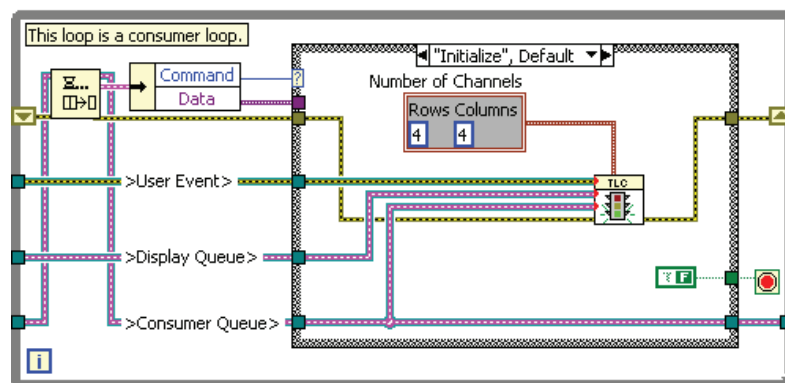

Figure 7-3. Initialize Case in Consumer Loop
7. Integrate tlc_Initialize.vi into the consumer loop of the TLC Main VI as shown in Figure 7-3. This case executes when the application starts. To build the case, use the following items:
Note The labels for the cluster constants in Figure 7-3 have been made visible to differentiate between the parameters in each cluster.